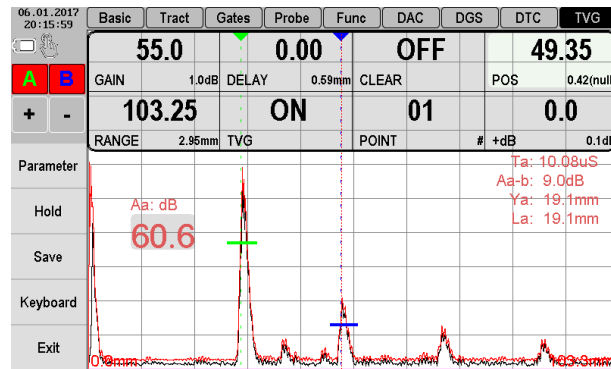

Figure 2.46 – Selection of the second (01) TVG point
10. Select point number 01 for the second reflected signal and set its position («POS» parameter) on the top of the second reflected signal (Figure 2.46)